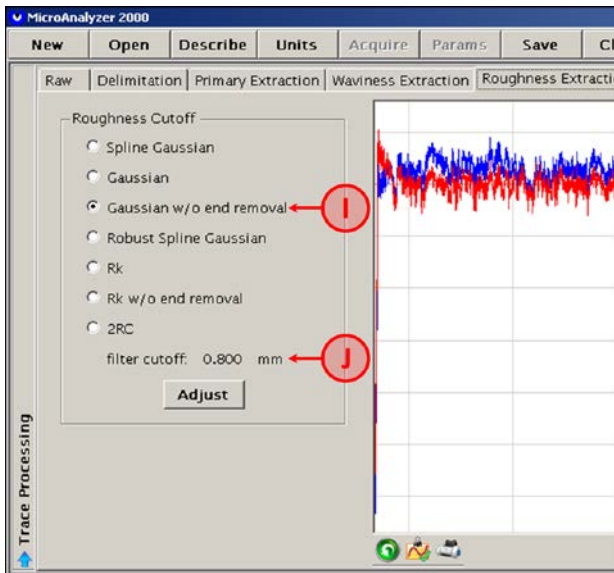

Figure 5 - Roughness Extraction Tab Settings
4.6. Confirm the following settings on the *Roughness Extraction* tab (Figure 5):
- 7.5. Confirm the following settings on the *Roughness Extraction* tab (Figure 5):